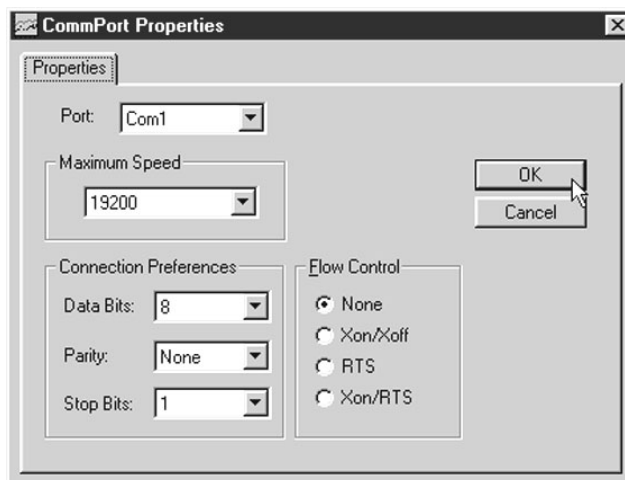

Figure C-1.
1. Go to the Options Group menu (42) and select D-Link in the communication options.
3. Open the D-Link utility. If a Communication Failed dialogue opens, click OK. Make necessary adjustments on the CommPort Properties screen (Figure C-1), and click OK.